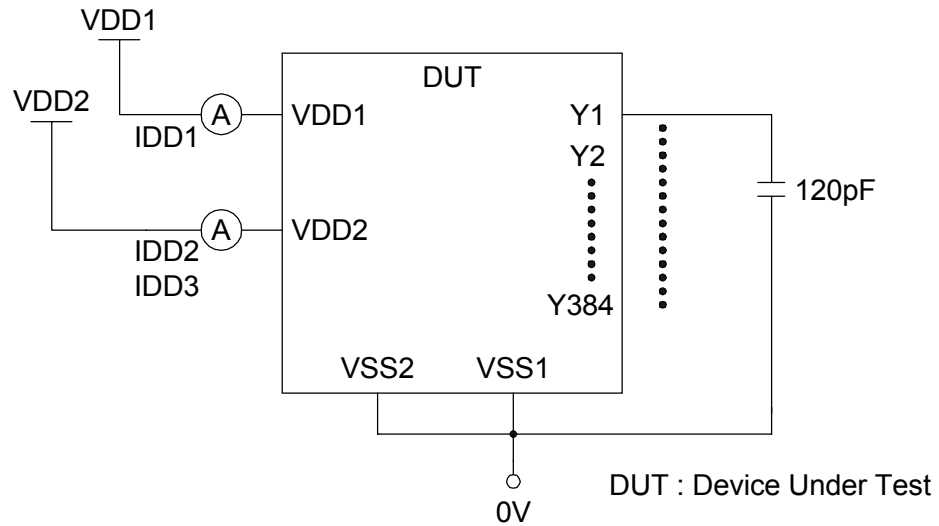

Figure 4. Yout Load Condition(IDD2&3)
6. Yout load condition : 120pF (tester load). Refer to Figure 4.
7. Yout load condition : No load (Yout open). Refer to Figure 4.